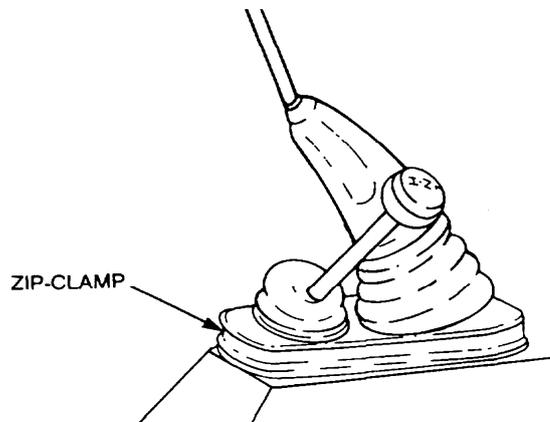

Figure 66 Gear Lever Rubber Boot Removal
- b. Remove the zip-clamp securing the rubber boot to the transmission tunnel cover (Figure 66).